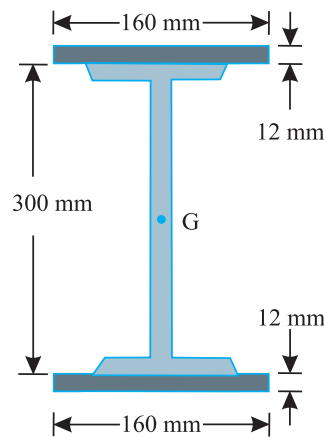

Fig. 7.20.
**Example 7.16.** A compound beam is made by welding two steel plates  $160\text{ mm} \times 12\text{ mm}$  one on each flange of an ISLB 300 section as shown in Fig 7.20.